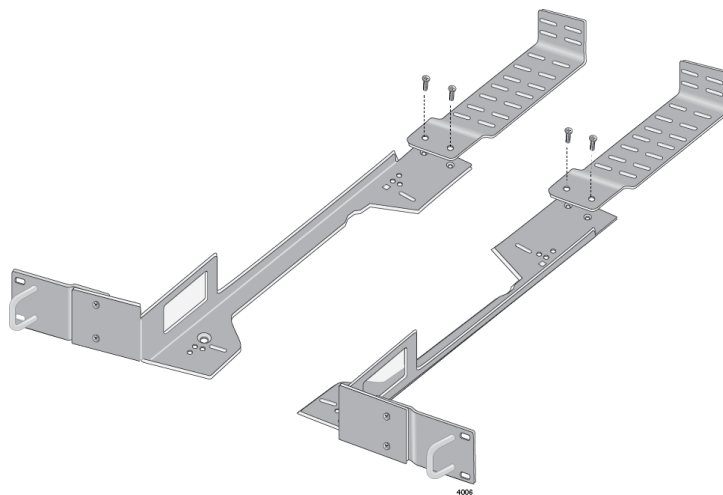

Figure 23. Attaching Cable Tray to Plates
5. Attach the cable bracket to the unit that you assembled in Step 4 with M4x6mm screws using a Phillip-head screw driver as shown in Figure 23.